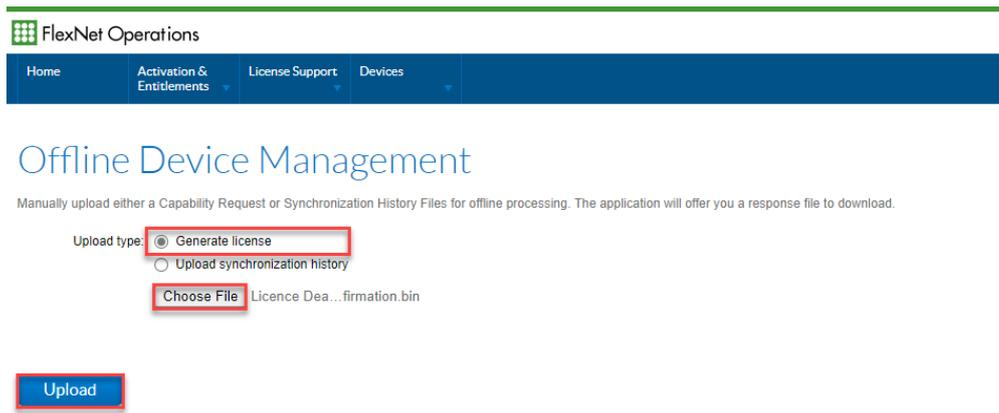

Figure 24. The FNO offline Device Management screen, with a link for uploading the *License Deactivation Confirmation* file.
30. At the **Offline Data Management** screen (Figure 24).